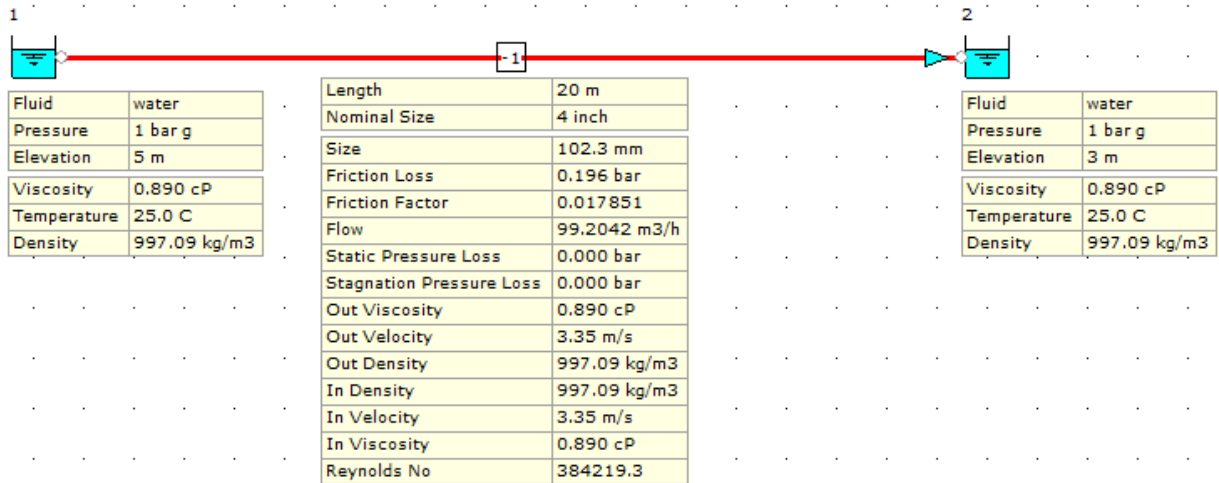

Figure 39: Hydraulic Model with Pipe Properties.
47. The hydraulic model should now look like the screenshot given below (Figure 39).